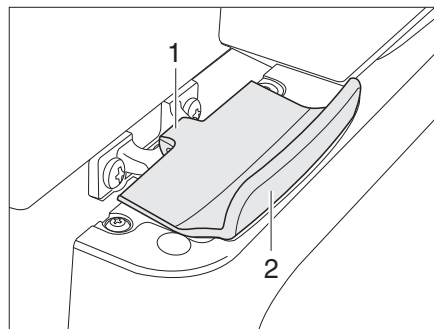

Fig. 361 Lock of refrigerator door, closed (Thetford)
- Open the refrigerator door at the handle (Fig. 361,2). The lock (Fig. 361,1) is released automatically.